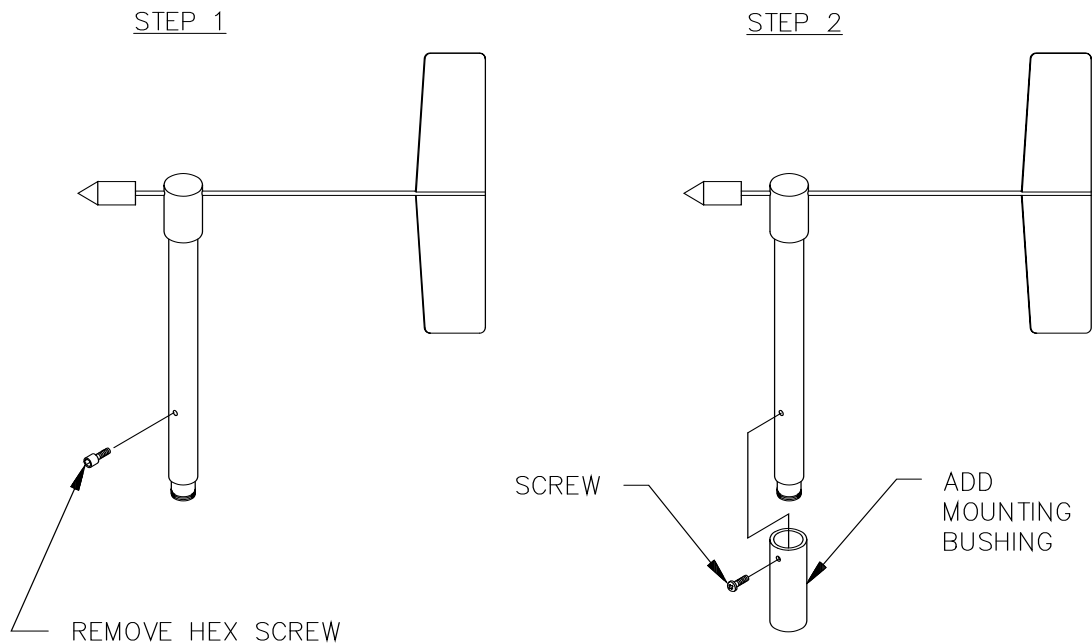

FIGURE 7-1. Bushing installation on 024A sensor
1. Remove the Allen hex screw in the lower part of the sensor housing (FIGURE 7-1).
2. Insert the 024A in the mounting bushing (FIGURE 7-1).
3. Tighten the mounting bushing screw onto the sensor housing (FIGURE 7-1).